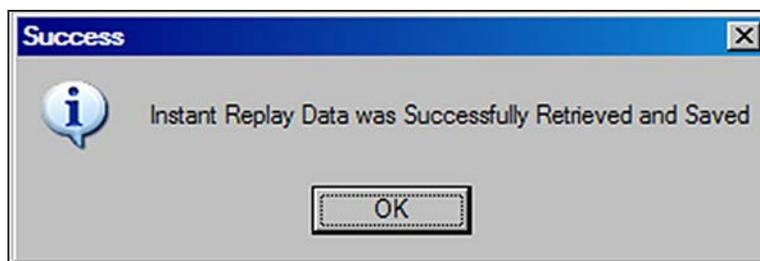

Figure 122. Success dialog box.
**STEP 11.** If no errors are encountered, the Success dialog box opens. See Figure 122. Click on the **OK** button, and close the *Communication Manager* screen.